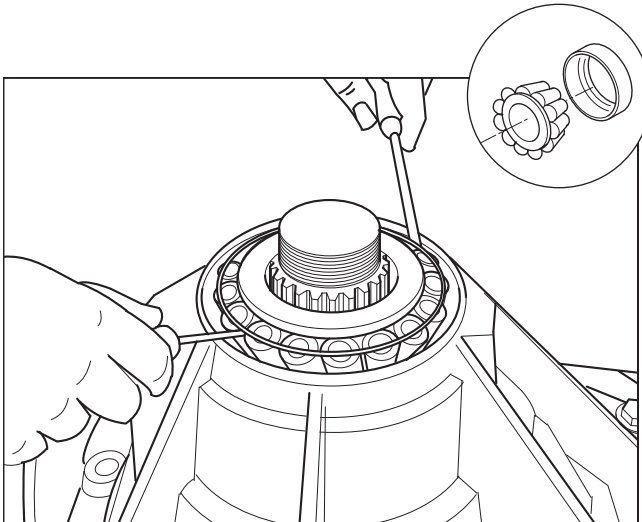

Fig. 2.22
22. Lift out bearing. (Fig. 2.22)